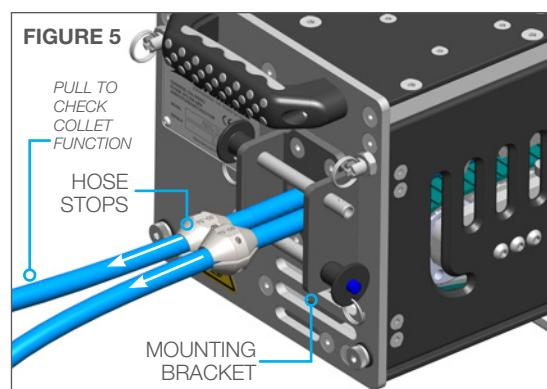

FIGURE 5
5. Pull on the hoses from the back of the AUTOBOX® (ABX-2L-B-V2) Hose Tractor to ensure that the Collet does not allow the waterblast tool back out of the Guide Assembly. (**Figure 5**)
6. To install hose stops, push waterblast tools through the exchanger until the tips are 1-2" (25-51 mm) past the end of the tube bundle. Loosely install the stop, then push toward the mounting bracket and tighten in place. (**Figure 5**)